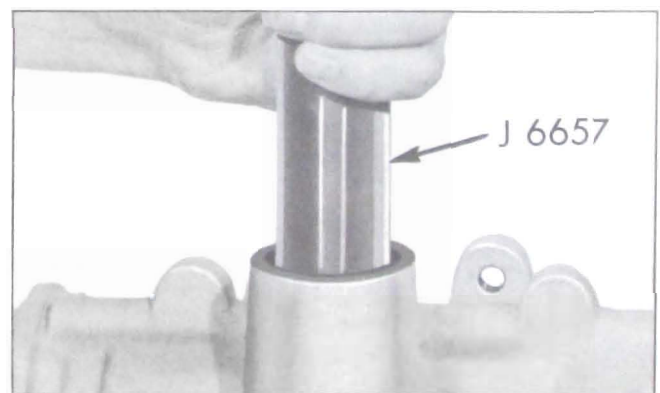

Figure 8-44—Removing Pitman Shaft Needle Bearing
2. Check the pitman shaft needle bearing for being worn, pitted or scored. If damaged, remove needle bearing from gear housing bore by driving from the seal bore side of housing using Tool J-6657. See Figure 8-44. Discard bearing.